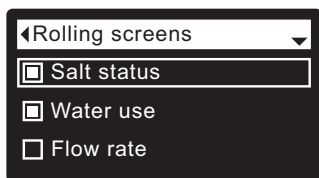

FIG. 108
5. Press the SELECT (O) button to display the Rolling screens menu (See Figure 108).